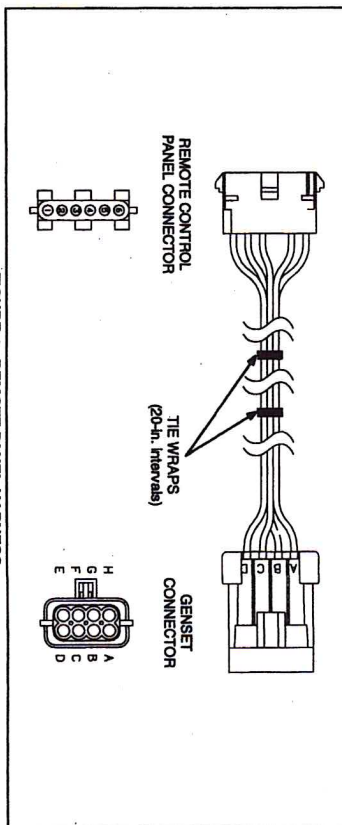

FIGURE 4. REMOTE PANEL HARNESS
- Two ready-made harnesses are available from Onan to connect the remote control panel to the genset. See Figure 4.
- Modify either of the ready-made harnesses by cutting them and splicing in user supplied wires of additional length. See Figure 4.
- Connectors with pig-tails for both the control panel end and the genset end are available from Onan to connect to user supplied intermediate wires. Connectors are identical to those shown in Figure 4.
- Connectors and end terminals (not assembled) for both the control panel end and the genset end are available from Onan and the supplier to connect to user supplied intermediate wires. This method is recommended only for high volume users. Connectors are identical to those shown in Figure 4.
The ready-made harnesses can either be used as is or modified by cutting them and splicing in user supplied wires of additional length. See Figure 4.
and to Table 2 for the corresponding genset terminal locations. Refer to Figure 4 for the genset connector terminal locations. Make sure to properly install wire seals and plugs in the genset connector to form a water-tight seal.